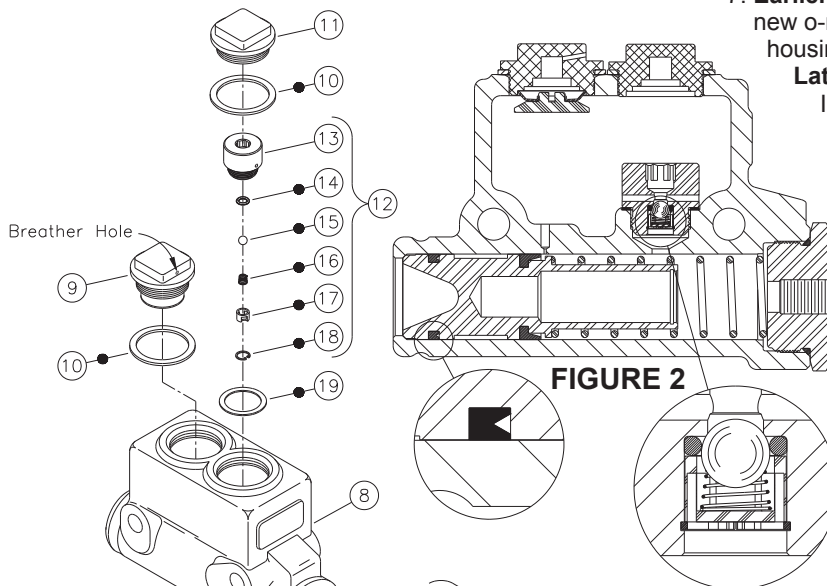

FIGURE 2
2. **Earlier Design:** Remove plug (1) and spring (3) from housing (8). Remove o-ring (2) from plug (1).
**Later Design:** Remove plug (1) and spring (3) from housing (8). Remove o-ring (2) from housing (8) bore.
3. Remove piston assembly (4) from housing (8). Remove cups (5 & 7) from piston (6). **NOTE: Be careful not to scratch or mar piston (6).**
4. Remove filler caps (9 & 11) and gaskets (10) from housing (8).
5. Remove plug assembly (12) and gasket (19) from inside housing (8) reservoir.
6. Remove retaining ring (18), retainer (17), spring (16), ball (15), and o-ring (14) from plug (13). Note direction of spring (16). See Figure 2.
2. Install new o-ring (14), new ball (15), new spring (16), new retainer (17), and new retaining ring (18) in plug (13). Note the direction of spring (16). See Figure 2.
3. Install new gasket (19) and plug assembly (12) in housing (8) reservoir. Torque plug assembly (12) 40.7-47.5 N·m (30-35 lb-ft).
4. Install new gasket (10) and filler cap (11) on housing (8).
5. **NOTE: Before installing filler cap (9) be sure the filler cap breather hole is free of all contaminants. Use air pressure to clean and dry this hole.** Install new gasket (10) and filler cap (9) on housing (8).
6. Install new cups (5 & 7) on piston (6). Note the direction of cup (7). See Figure 2. **NOTE: Be careful not to scratch or mar piston (6).**
7. **Earlier Design:** Lubricate the threads on plug (1). Install new o-ring (2) on plug (1). Install spring (3) and plug (1) in housing (8). Torque plug (1) 67.8-108.5 N·m (50-80 lb-ft).
**Later Design:** Lubricate the threads on plug (1). Install new o-ring (2) in housing (8) bore. Install spring (3) and plug (1) in housing (8). Torque plug (1) 67.8-108.5 N·m (50-80 lb-ft).